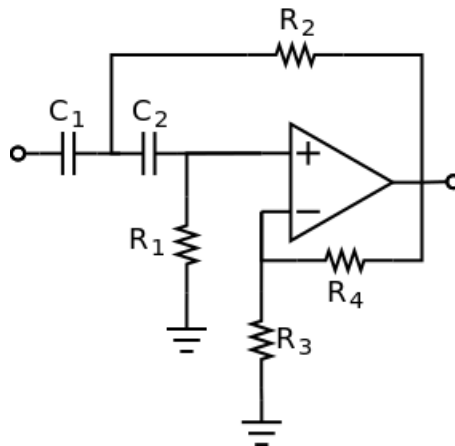

Figure 1: Sallen-Key active HPF implementation
The circuit of Figure 1 represents a Sallen-Key (VCVS) implementation of a second-order active HPF. In its simplest form with equal resistor and capacitor values i.e. $R_2 = R_1 = R$ and $C_2 = C_1 = C$, the response of the filter may be written in the form
- 1.3. How many stages are required to implement this design using the Sallen-Key (VCVS) filter configuration (Figure 1)?